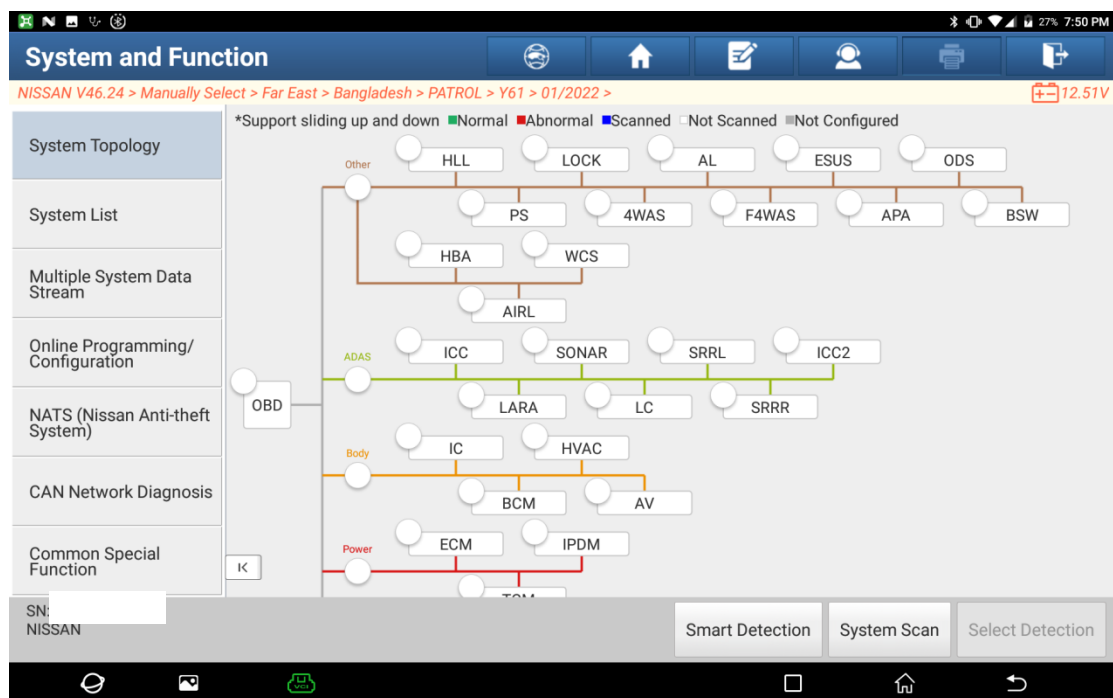

Figure 2
2. Click [Manually Select], and choose [Far East] > [Bangladesh] > [PATROL] > [Y61] > [01/2022] to enter the vehicle model system interface. See Figure 2.